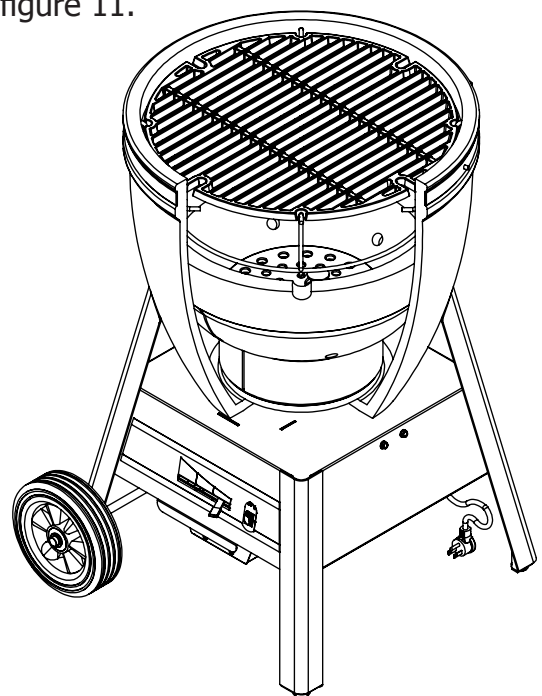

FIGURE 12: GRILL AND SUPPORT INSTALL
Step 13: Finally install grill support and grill. The grill support will locate in holes drilled on the inside the shell. Install as originally installed when delivered. The smaller cutouts in the grill locate on the grill support (See figure 12).